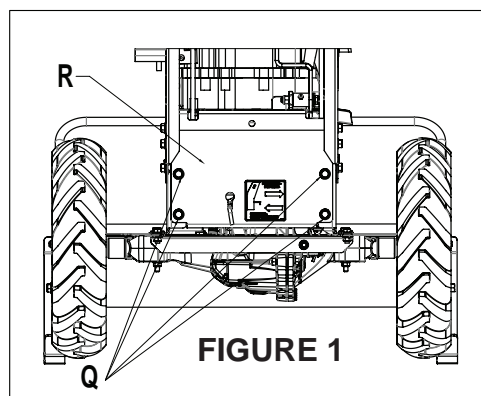

FIGURE 1
1. Remove the four bolts **Q** holding the rear cover **R**. (Figure 1)